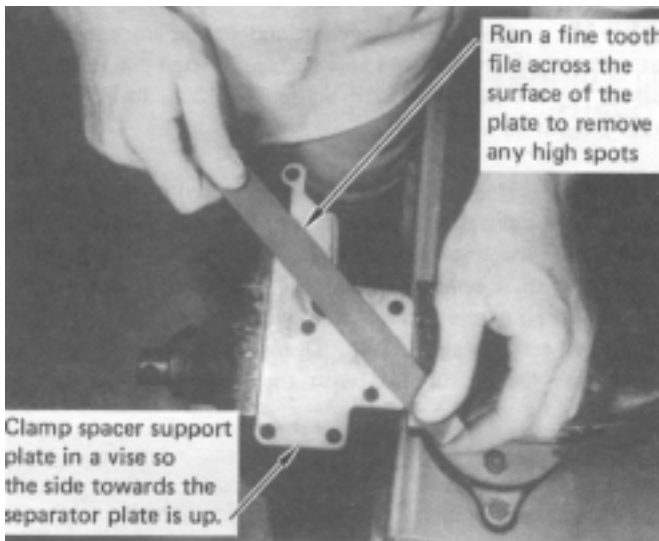

FIGURE 4
STEP 7. Clamp the spacer support plate in a vise and run a file across the surface that will contact the separator plate. (See Fig. 4) The Spacer support must be flat or it will leak. If your spacer support plate is bent or excessively warped, it should be replaced. (Chevrolet part # 338905)